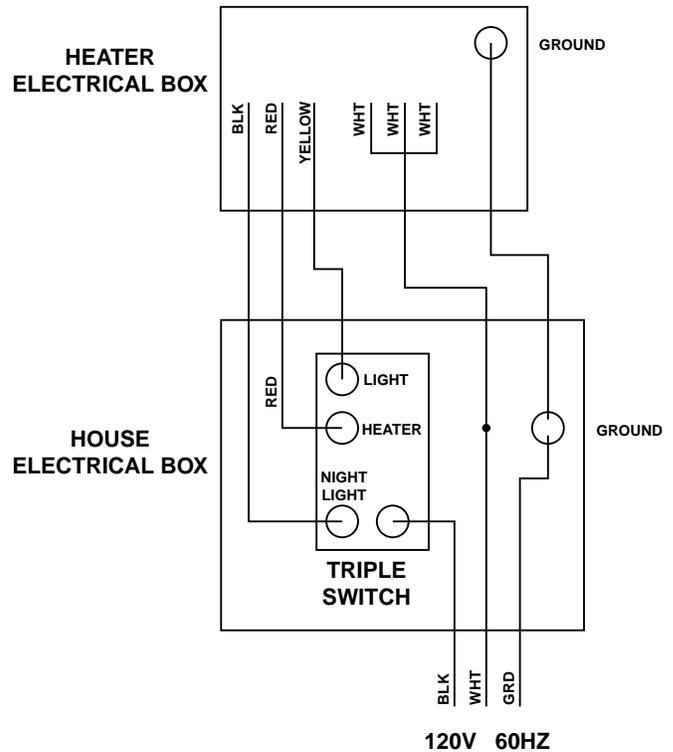

Fig 2.
**Electrical Wiring** (Refer to Fig. 2)